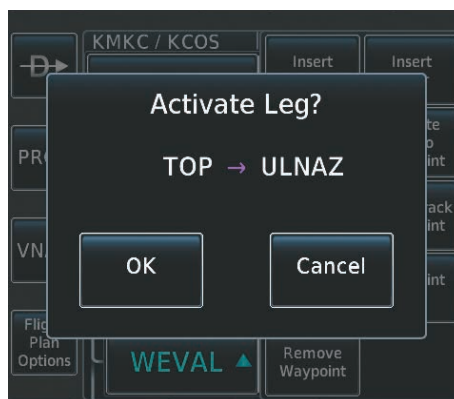

Figure 5-169 Confirm Active Leg
- b) Touch the **Activate Leg to Waypoint** Button. The confirmation window is now displayed as in Figure 5-169.